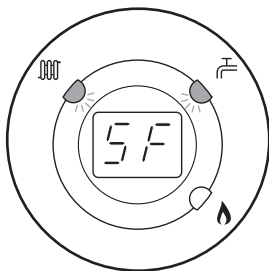

Fig. 40
4. The display will now alternate between 'SF' and the current boiler temperature and both green LEDs will flash (Figs. 40 & 41).